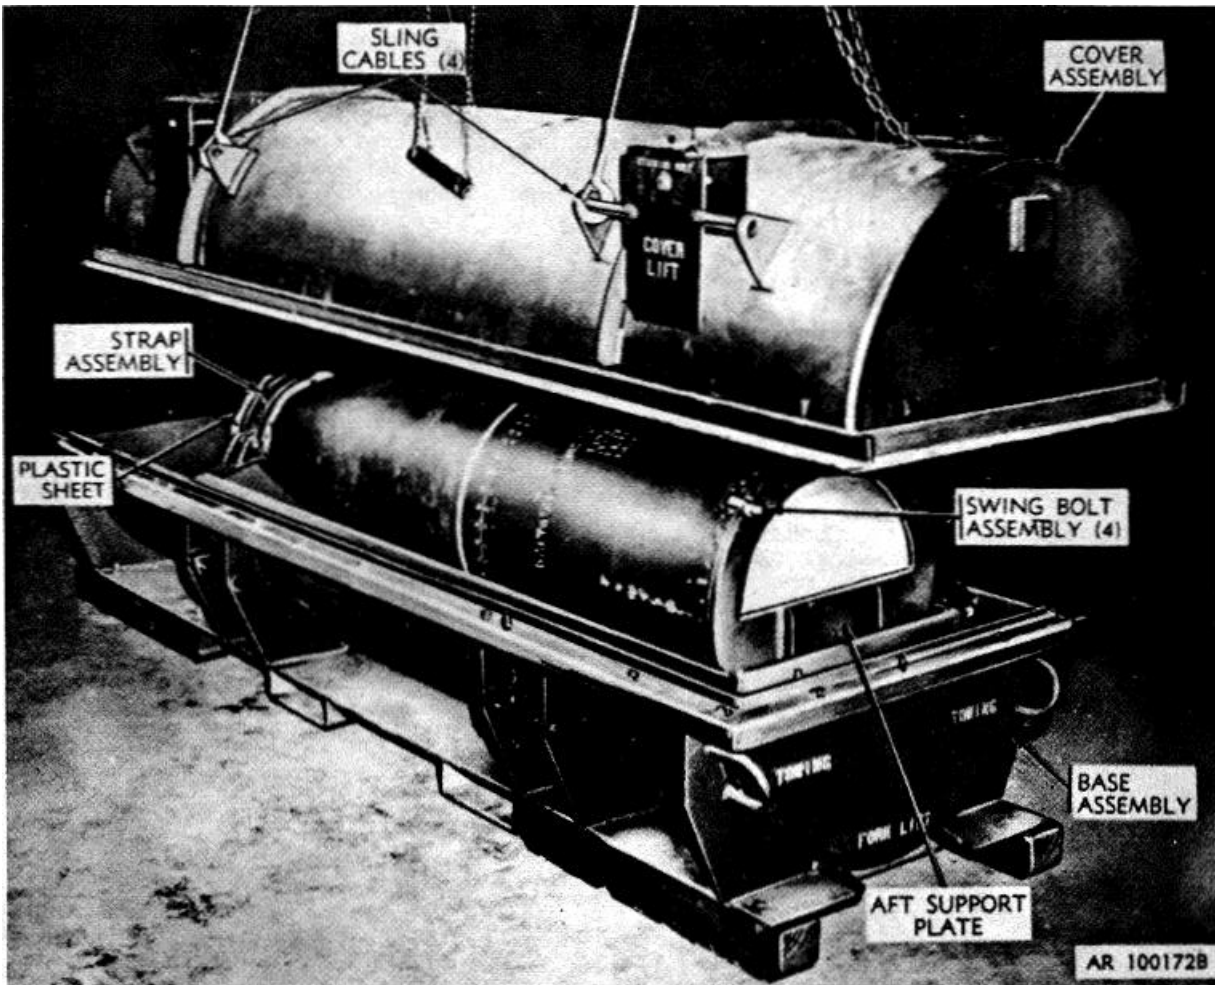

Figure 2-1. Removing or installing cover of container M544 using beam-type sling M22.
(4) Using beam-type sling M22 (para 3-4a and fig. C-5), position sling over container and perpendicular to container's length (fig 2-1). Connect sling to hoist or other suitable lifting device. Attach four sling cables (44-in.) to four cover lift bars and remove container cover assembly by lifting straight up until cover is clear of warhead section. Place cover on dunnage out of immediate work area and retain for future use.
(5) Perform as much of premate and mate inspection as is practical.